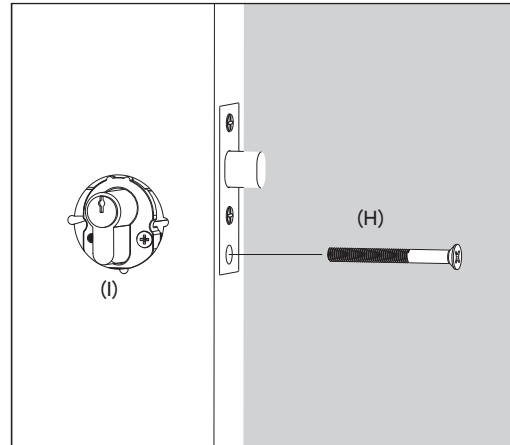

Figure 9.
15. Slide the euro cylinder (I) (sold separately) into the deadbolt bracket (B).
16. Lock in place with the euro cylinder bolt (H) through the face plate (C). Check the euro cylinder is functioning correctly. Figure 9.